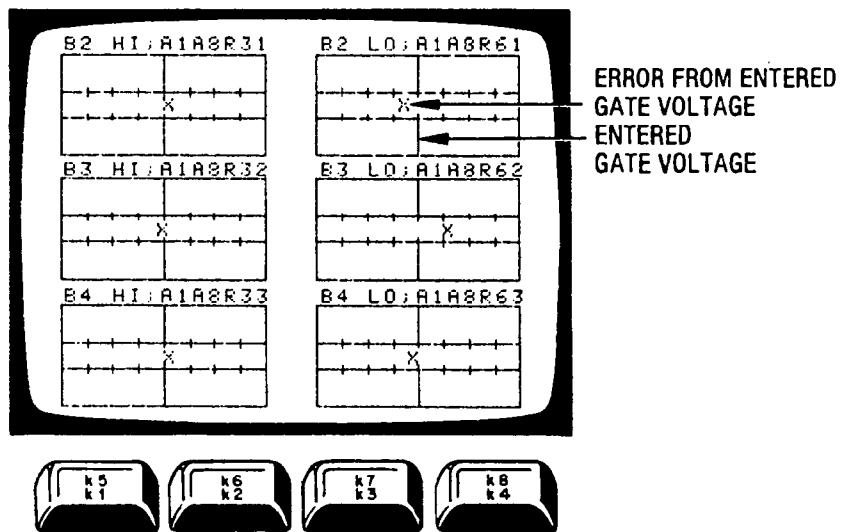

Figure 5-20. Gate Voltage Adjustment
c. Gate bias voltages are adjusted for bands 2, 3, and band 4. Six rectangles are drawn on the controller screen, each one representing an adjustment. The center of the rectangle represents the entered gate voltage. The flashing "X", which represents the error from the entered gate voltage, is adjusted to within one-half division of the rectangle center. See figure 5-20.